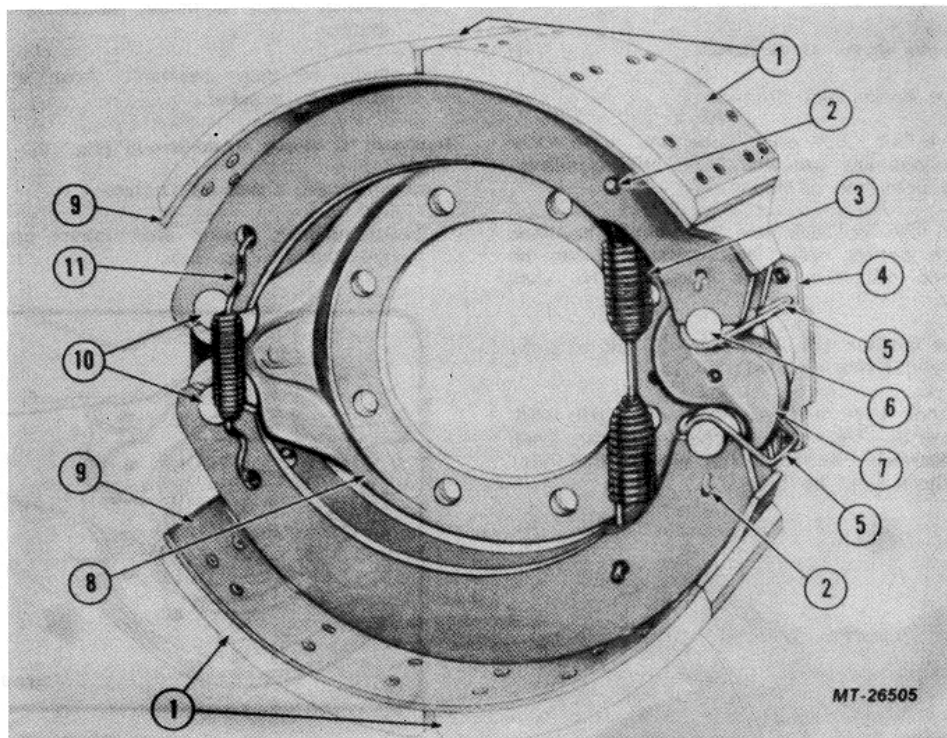

Fig. 12 Typical Brake Group with Removable Anchor Pins
2. Press down on the lower brake shoe and remove the lower cam roller (Fig. 12).